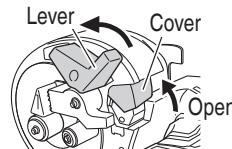

Fig. 25
- (3) Turn the lever to the direction indicated by the arrow and open the cover. (Fig. 25)